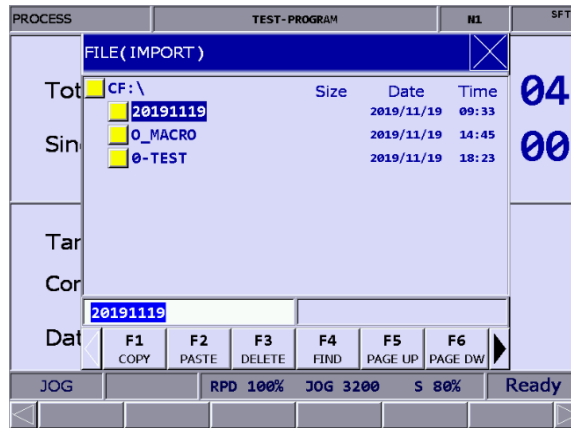

Figure 9.8.1
- (1) Press **DGN** to enter the DGN screen.
- (2) Press **▶** to display the function bar on the next page.
- (3) Press **IMPORT** to display the file manager (FILE) window as shown in Figure 9.8.1. Select the directory to import the file, press **ENTER**, and the system accesses the files in the folder.